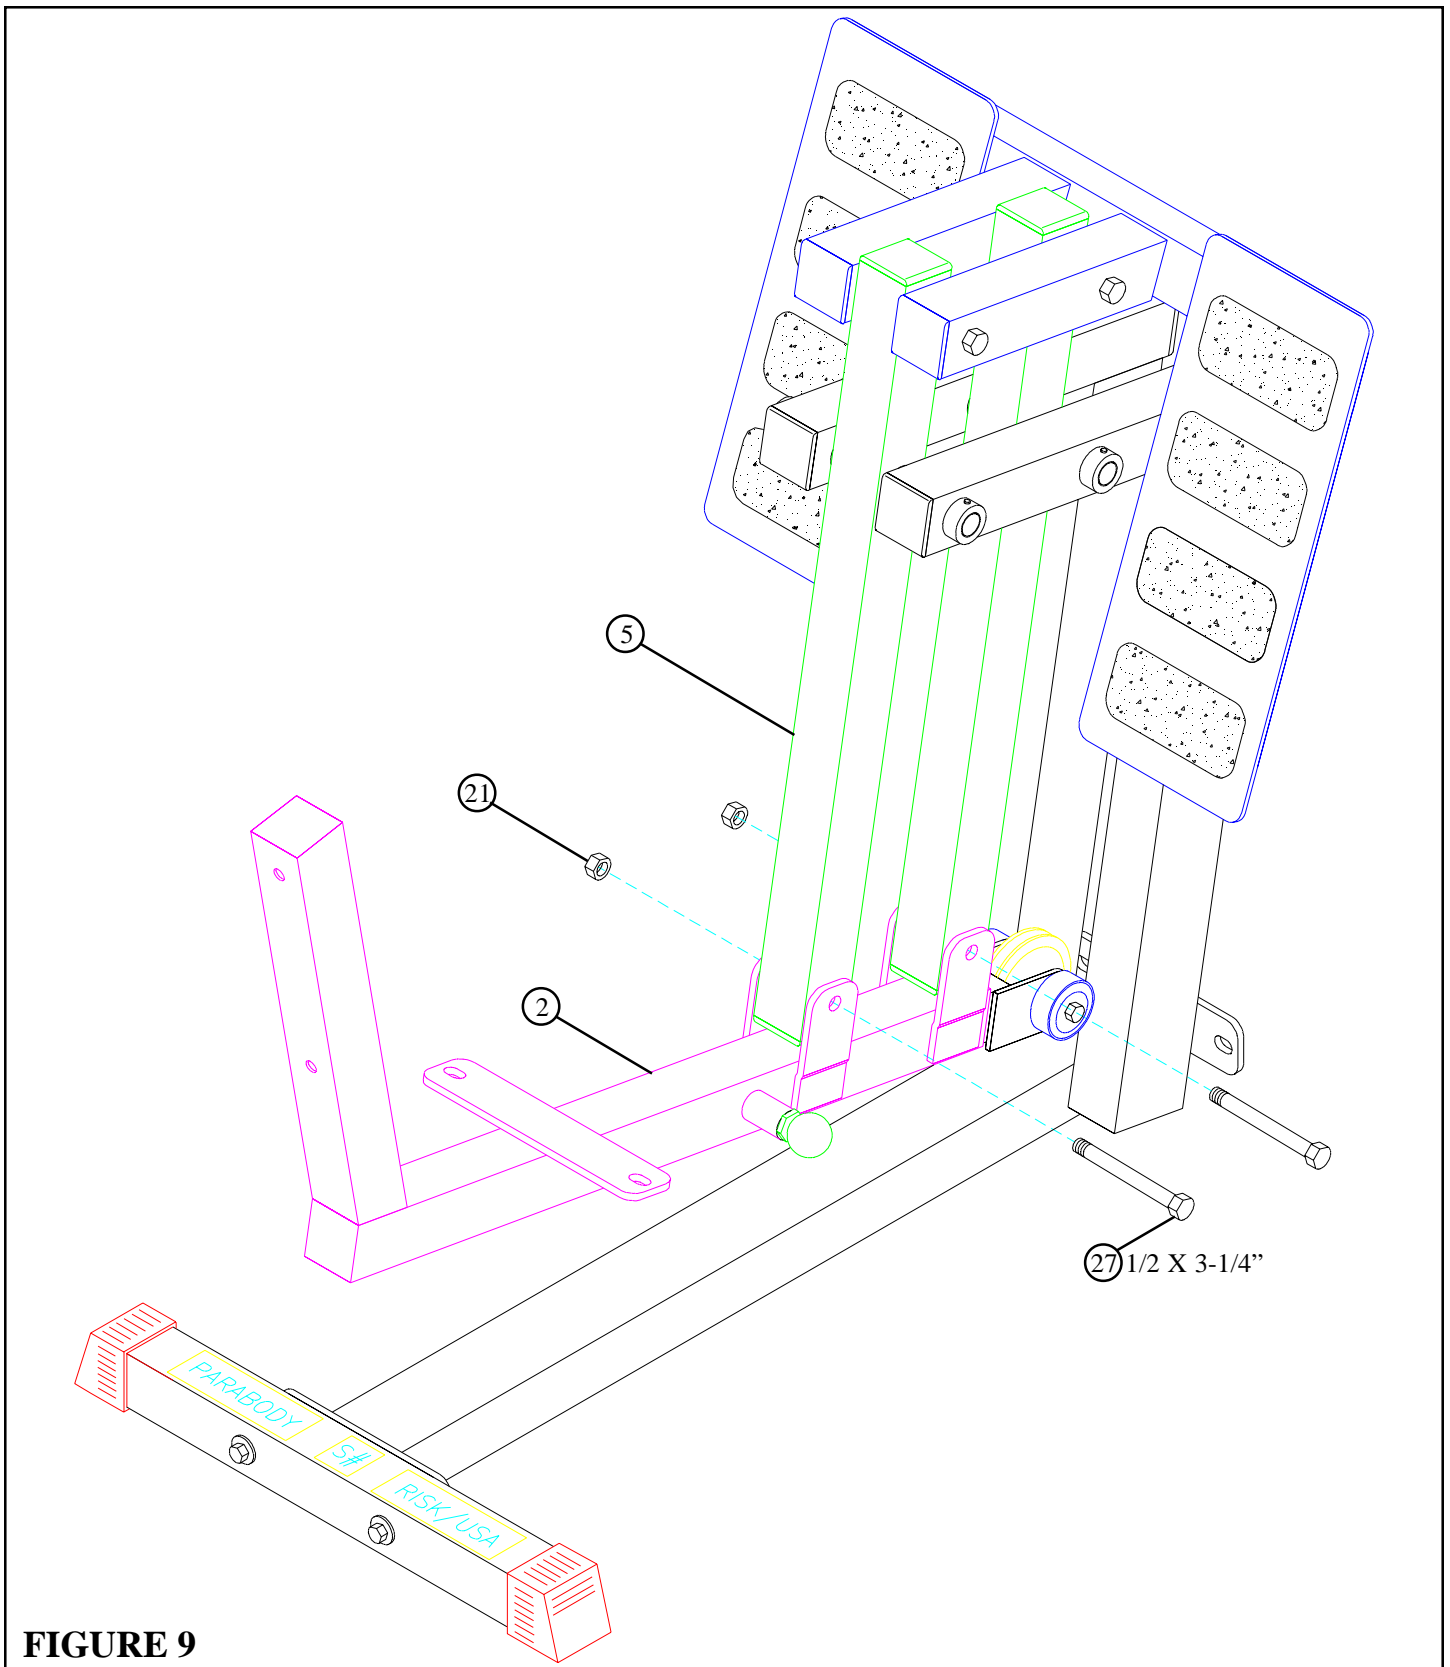

FIGURE 9
- **SECURELY** assemble the SEAT FRAME (2) to the LEVER TUBES (5) using two 1/2 X 3-1/4" BOLTS (27) and two 1/2" LOCK NUTS (21) as shown in FIGURE 9.